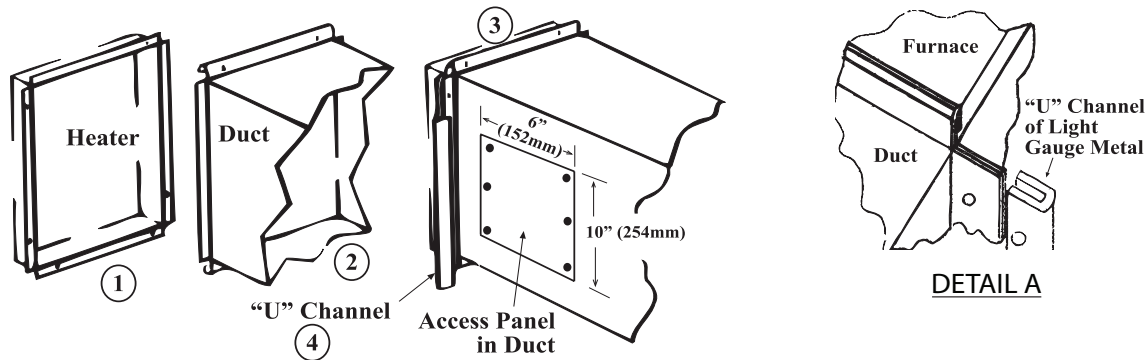

Figure 6. Connecting Ductwork to Furnace
- **Supply air duct/furnace horizontal connection:** The seal between the furnace and the duct must be mechanical using U-type flanges on the top and bottom of the connecting duct to ensure tight joints and an airtight fit. Refer to Figure 6 and perform the following steps:
- **Access panels:** Install removable access panels (see Figure 6) on both the upstream and downstream sides of the furnace. The access panels must be accessible when the furnace is in service and should be a minimum of 6 × 10 inches (152 × 254 mm) in size so smoke or reflected light may be observed inside the casing to indicate the presence of leaks in the heat exchanger. Ensure that the access panels are installed in such a manner so as to prevent leakage.